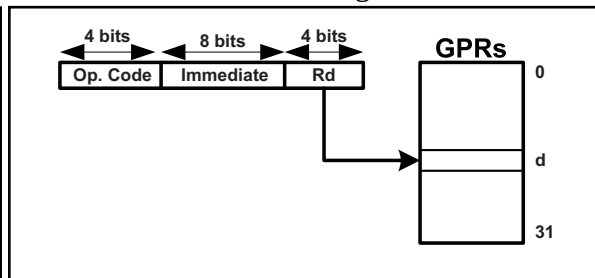

Figure 2b. Single-Register (with immediate)
3. Some AVRs have more than 64 I/O registers. The extra I/O registers are located above the data memory address \$5F. The data memory allocated to the extra I/O registers is called *extended I/O memory*. As shown in Figure 2b, in the I/O direct addressing mode, the address field is a 6-bit address and can take values from \$00–\$3F, which is from 00 to 63 in decimal. So, it can address only the standard I/O register memory, and it cannot be used for addressing the extended I/O memory. For example, the following instruction causes an error, since the I/O address must be between 0 and \$3F: